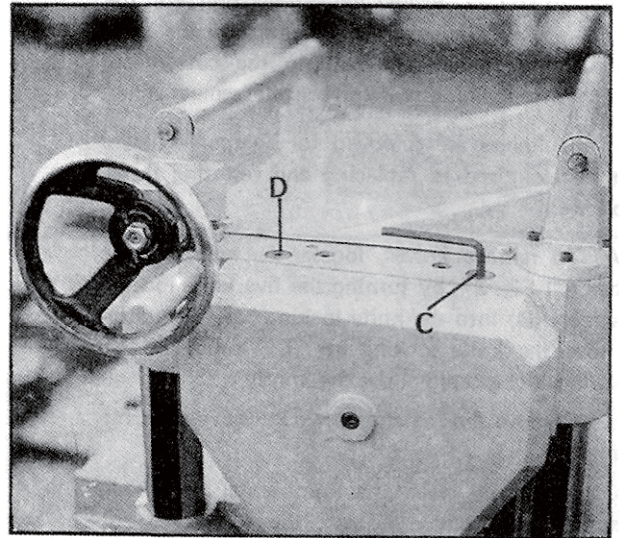

Fig. 29
To adjust the spring tension of the infeed roll, turn screw (C) Fig. 29, and also the screw on the opposite end of the roll.
To adjust spring tension of the outfeed roll, turn screw (D) Fig. 29, and also the screw on the opposite end of the planer.